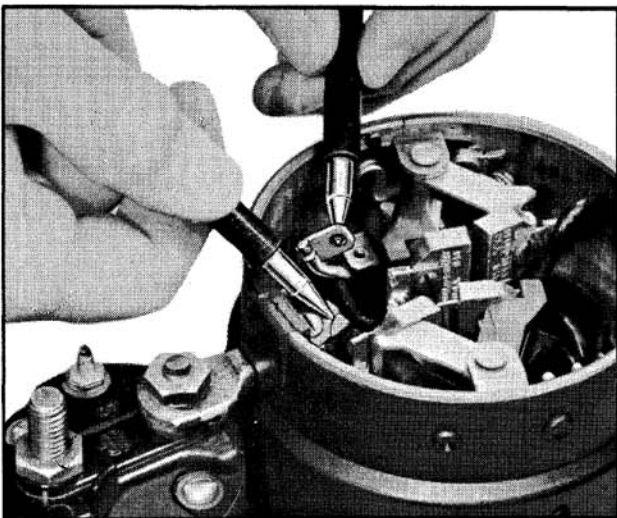

Fig. 13-54 Checking Shunt Coil for Open
- d. Using a 110-volt test lamp, place one lead on each end of the shunt coil or coils. (Fig. 13-54) Disconnect the shunt coil